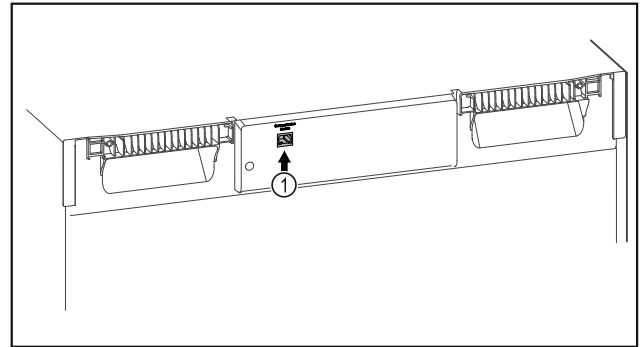

Fig. 93
- SmartModule Fig. 93 (1) is in use.